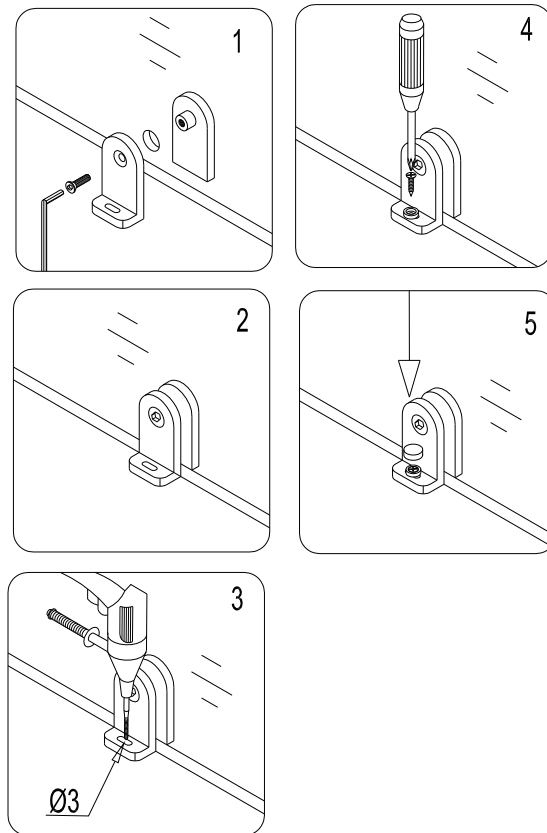

Fig 20
20. To adjust and secure the stationary glass - install the **Bracket (32)** onto the stationary glass; mark the drill hole for the bracket. Make sure the mark is clear and visible and drill the hole on the mark. Use the self tapping **Round head screws ST4.2×25 (30)** to attach the **Bracket (32)** to the tray or the threshold. Cover the screw location with **Decorative cover (31)**. See Fig 20 for details.